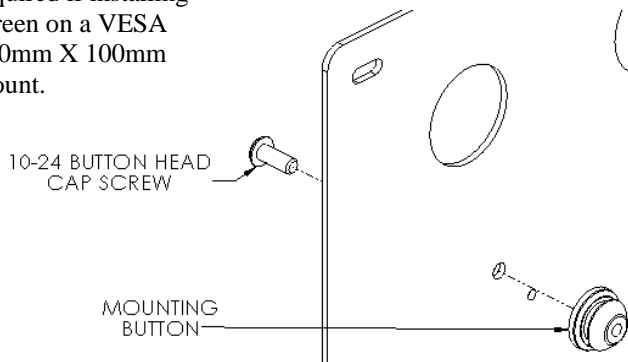

Figure 2
- Using #10-24 screws secure mounting button to bracket, with chamfered hole of mounting button (larger surface) facing bracket (4 places) (see Figure 2 and Figure 3).